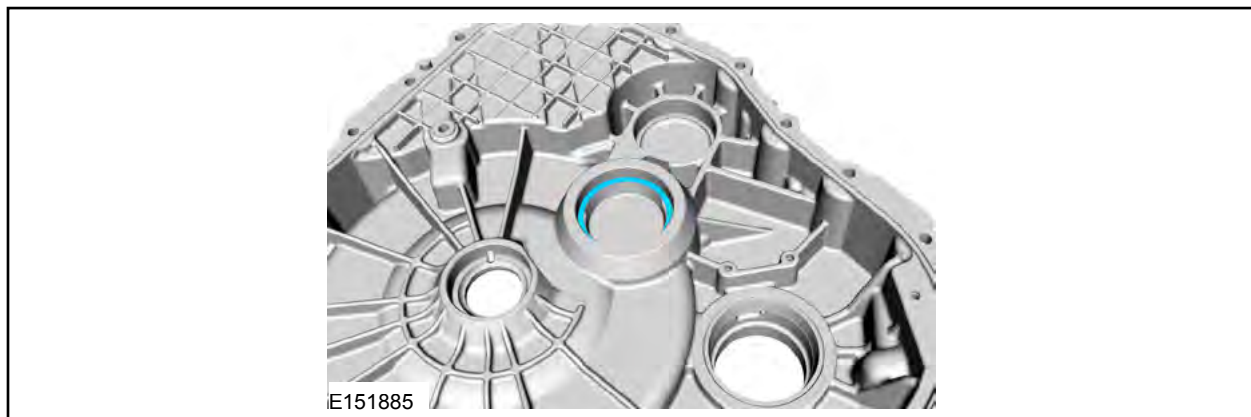

FIGURE 29
24. Install the *new* transfer shaft preload shim. See Figure 29.